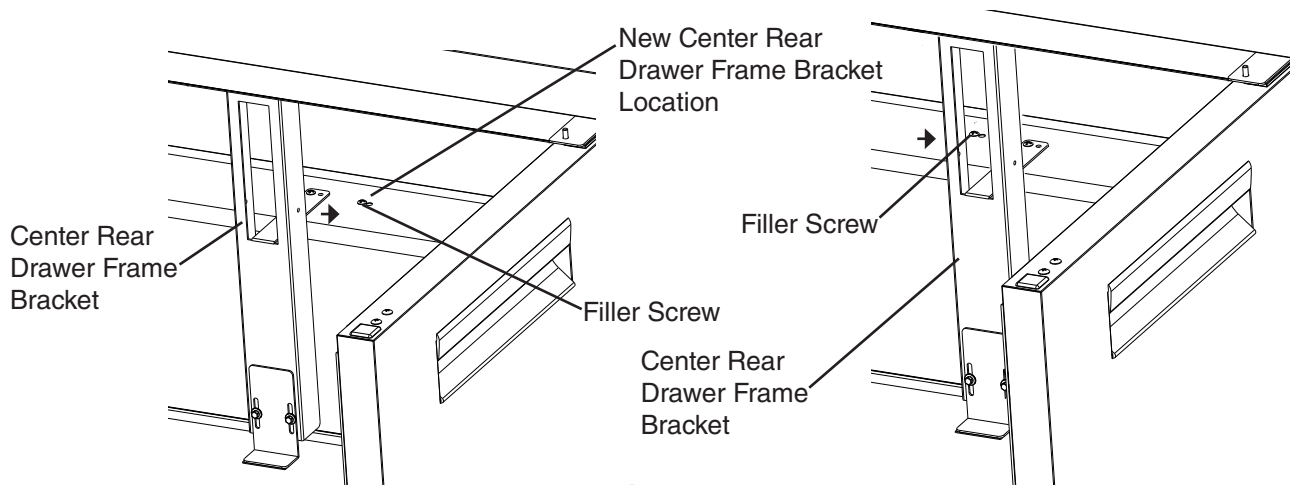

Fig. 24
- 6) Remove the center rear drawer frame bracket and the filler screw. See Fig. 24. Slide the center rear drawer frame bracket over to the new location and secure it. Place the filler screw in the former center rear drawer frame bracket hole.